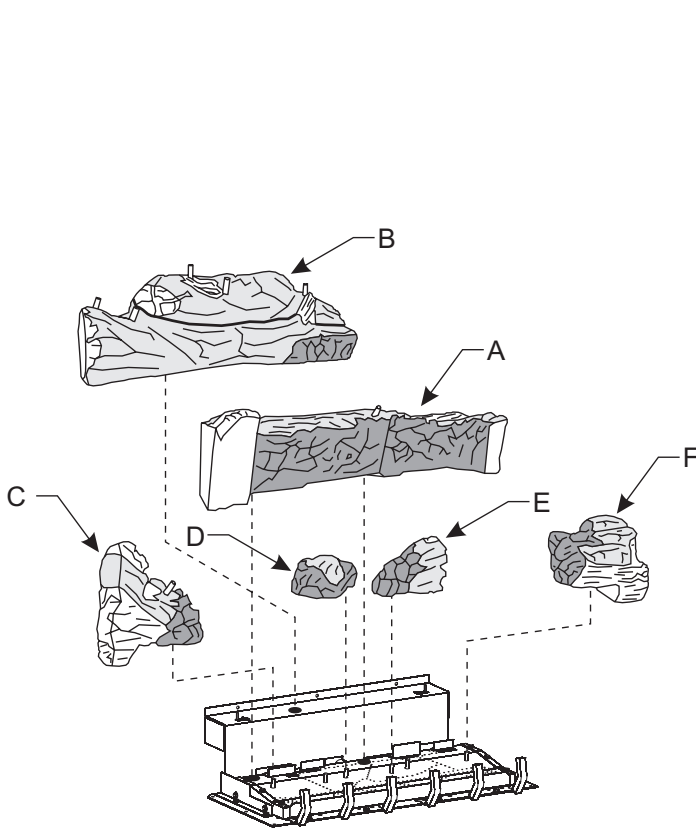

Figure 66
**Attention:** Refer to Log Identification Pages 42 and 43, and Figures 66 and 67 to order logs.